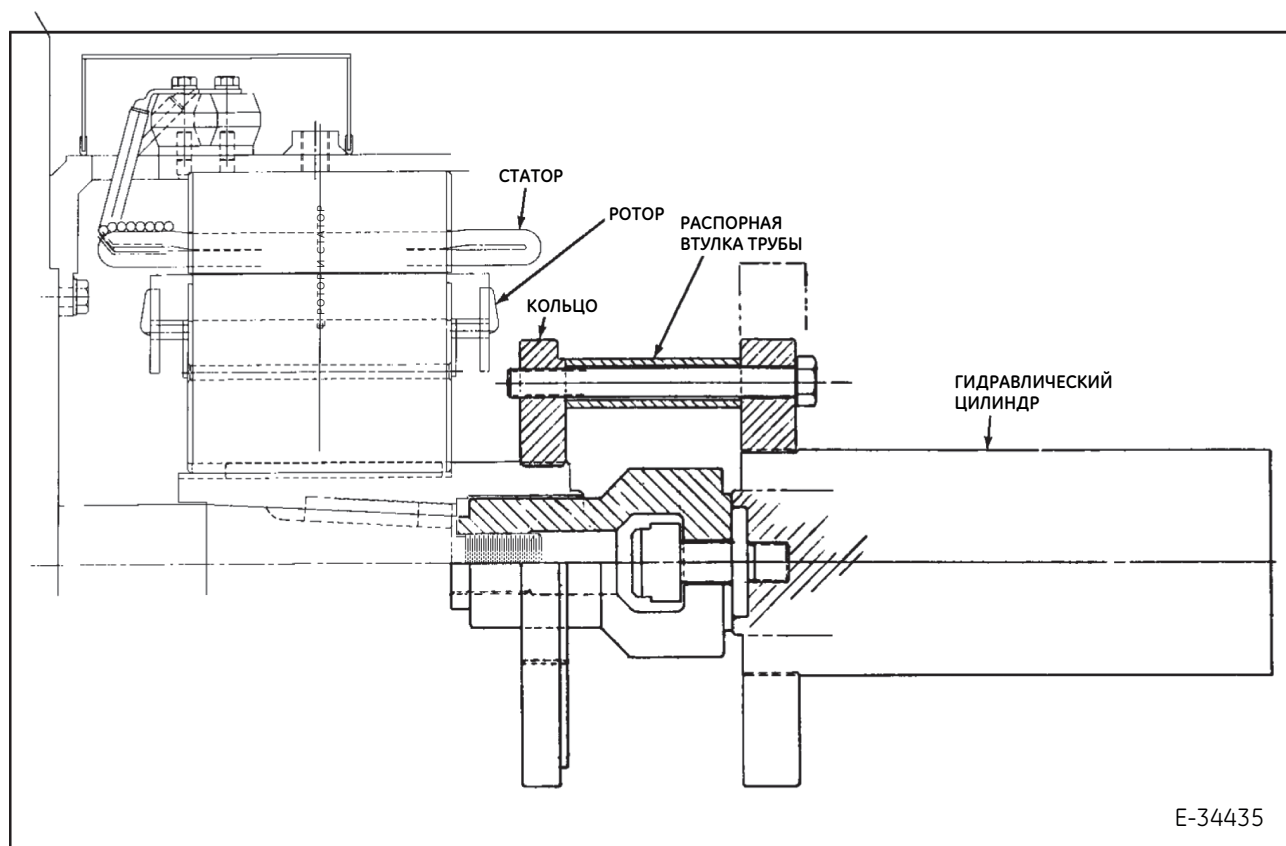

Figure 3. Hydraulically Remove Rotor From Air Compressor Shaft
6. Mount the ring on the rotor and assemble the hydraulic cylinder and pipe spacers to rotor ring, tighten bolts (Figure 3).